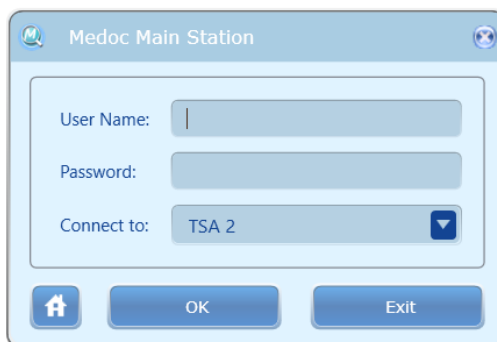

Figure 7: Login Screen
4. When the Login Screen is displayed, enter your user name and password and select “TSA 2” in the “connect to” field. Initial login Username and Password are both “admin” (see figure 7).